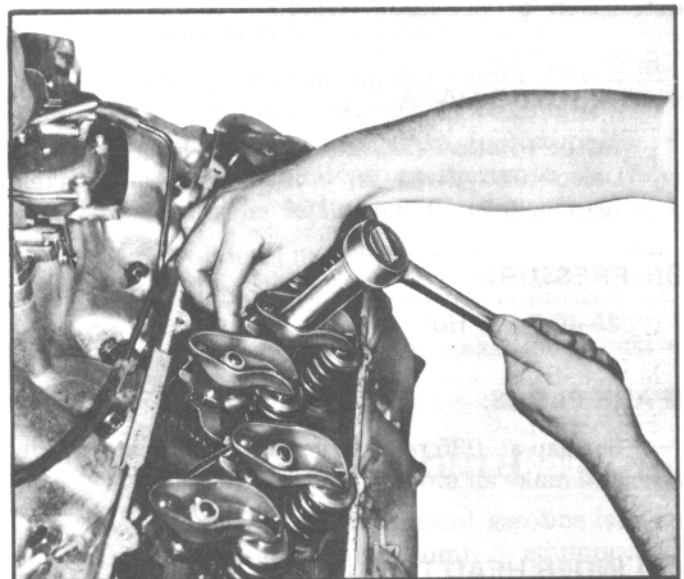
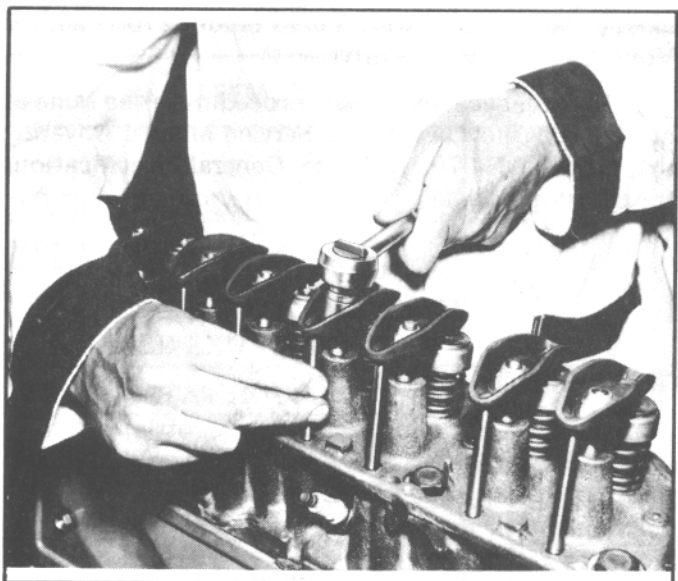

Fig. 44. Adjusting Valve Clearance V-8
Fig. 45. Adjusting Valve Clearance 292 In-Line Six
2. Turn rocker arm nut down until clatter just stops. This indicates zero lash (Fig. 45 - 292 In-Line Six, Fig. 44 - V8).